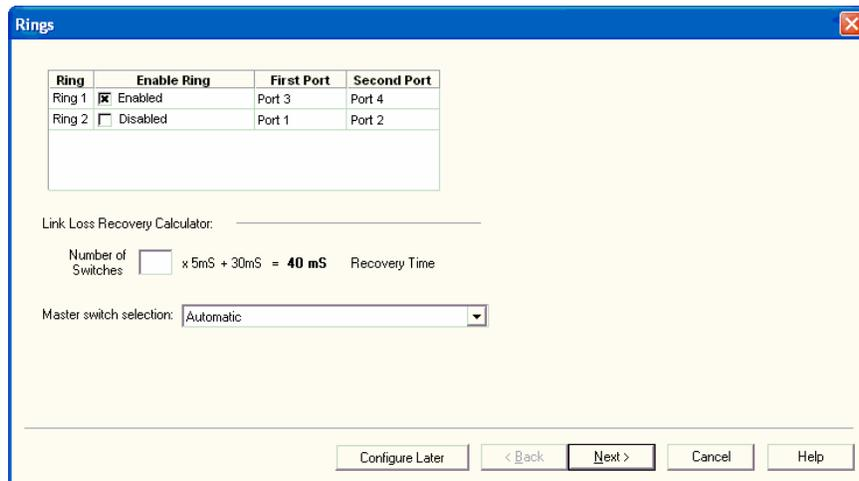

Figure 4.7
- For the ring settings, the integrator enables a ring on ports 3 and 4 as shown in Figure 4.7.